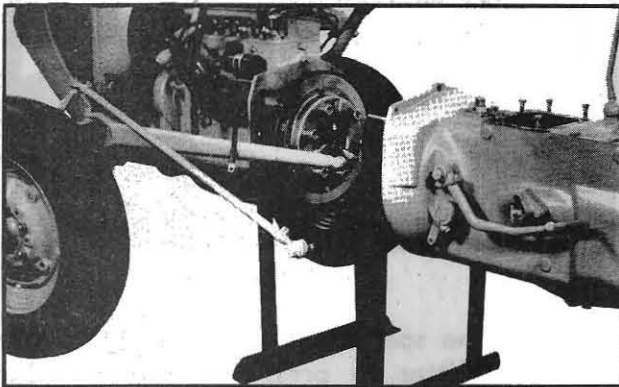

Fig. 224
16. Bolt suitable stand to the front of the transmission housing, see Fig. 224, and move jack to the rear of the transmission housing.